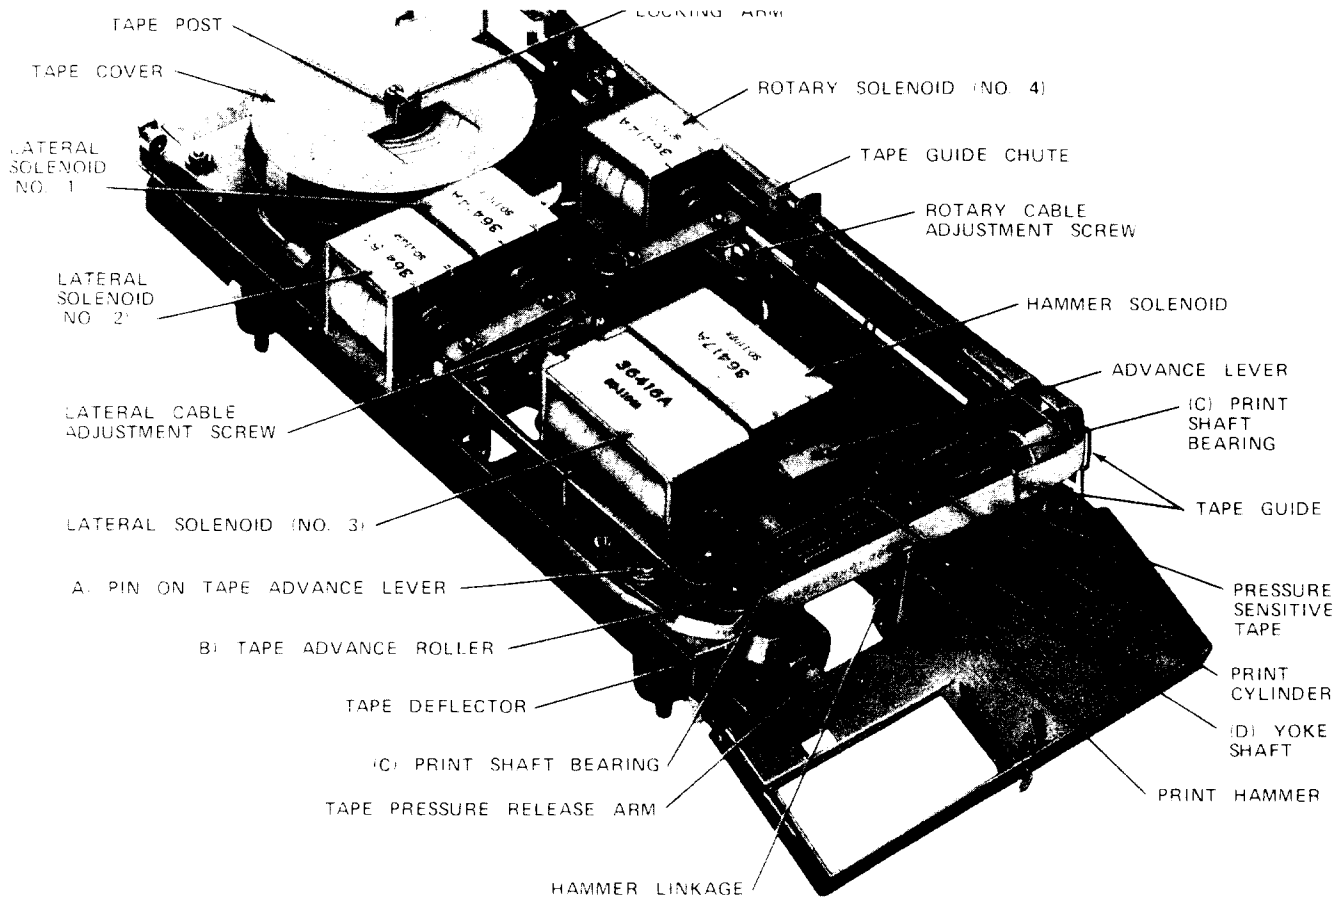

Fig. 1 — KS-19717, L5, Tape Printer—Cover Removed
1.06 To show the location of component parts, the KS-19717, L5, tape printer, with cover removed, is illustrated in Fig. 1.
4.02 Lubrication: If the installation date is exceeded, the KS-19139, L4, lubricant should be applied sparingly to the following points shown in Fig. 1.